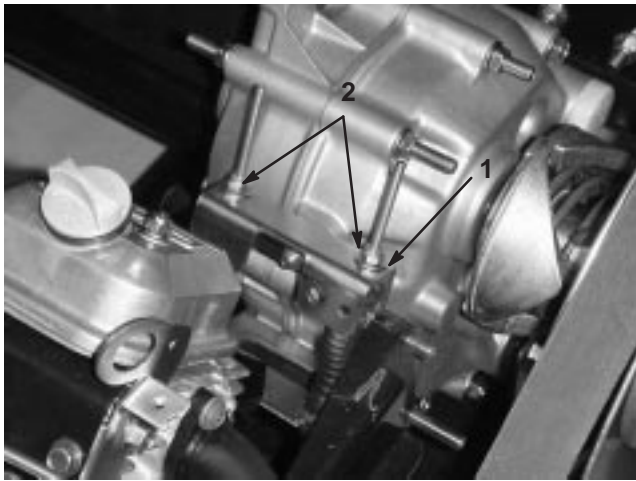

Figure 18
When performing routine maintenance and/or engine diagnostics, the transaxle must be shifted into neutral (Fig. 18). The vehicle has a neutral position on the shift lever, which controls the neutral in the transaxle. The following steps should be taken to make sure that the neutral shift lever operates the transaxle neutral correctly:
2. Ensure that the neutral bracket is in the neutral position (level) by turning the drive clutch (Fig. 18). The vehicle should not roll back and forth. If it does, manually move the neutral bracket to the neutral position.
3. Tighten one of the locknuts (Fig. 18) just enough to take the slack out of the shift cable.